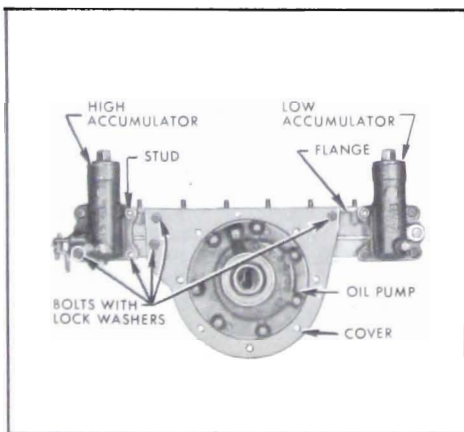

Figure 5-36—Accumulator Body and Reaction Shaft Flange Attaching Screws
3. Remove the bolts which attach the accumulators and the oil pump cover but do not remove the stud nuts which attach these parts. See Figure 5-36.